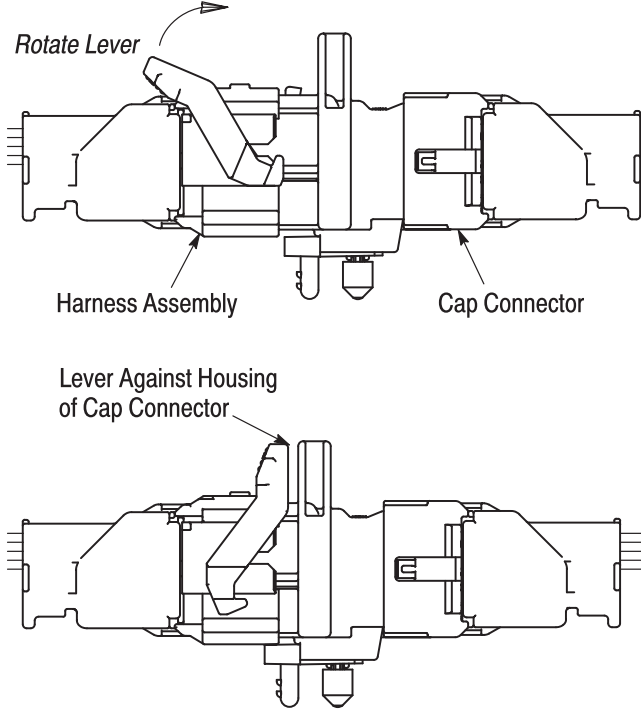

Figure 8
1. Make sure that the lever of the harness assembly is in the OPEN position (refer to Figure 8, Detail A). Align the mating faces of the connectors so that the key of the cap connector faces the keying slot of the harness assembly. See Figure 8, Detail A.
3. Rotate the lever of the harness assembly until it is against the housing of the cap connector. There should be an audible “click” when the lever is in position. See Figure 8, Detail B.
1. Rotate the lever of the harness assembly to the OPEN position. The lever is in the OPEN position when the lever is against the stops of the harness assembly (refer to Figure 8, Detail A). The lever MUST be in the OPEN position before unmating the connectors.